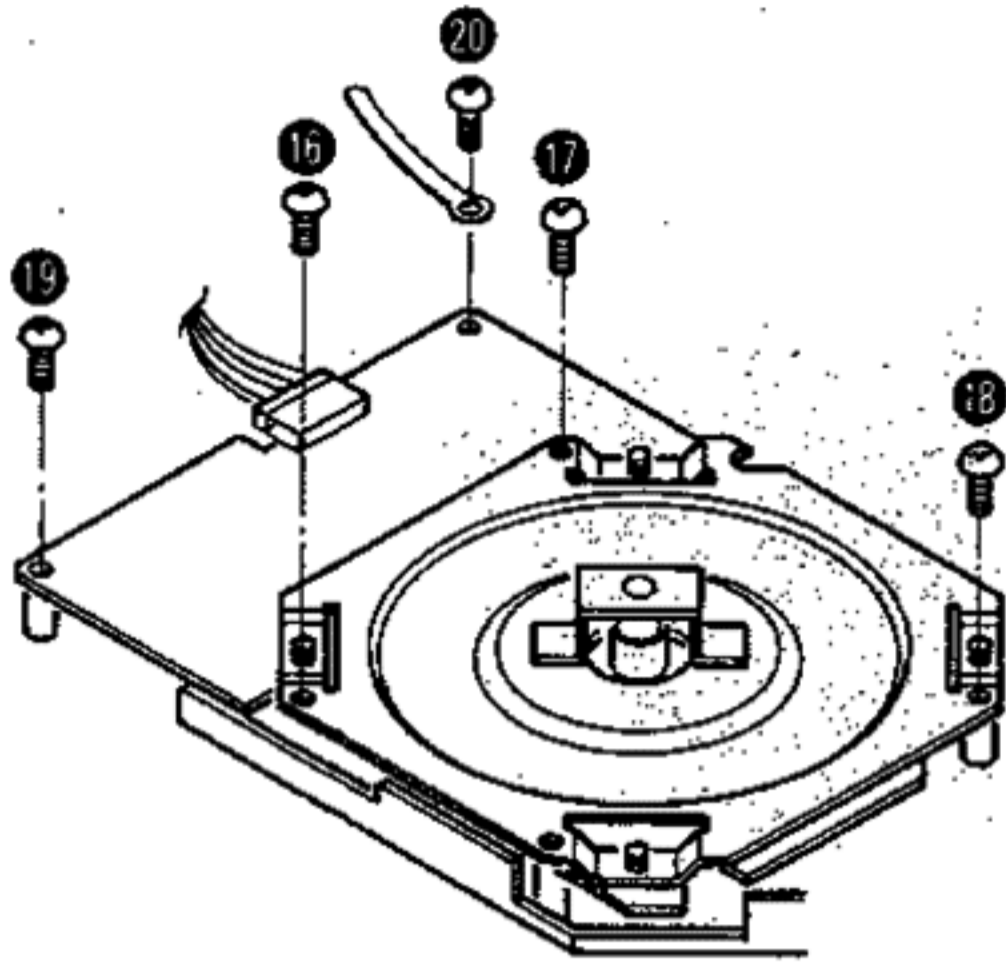

Fig. 9
2. Remove the 3 stator frame setscrews (Fig. 9: ①⑥ ~ ①⑧) and the 2 drive circuit board setscrews (Fig. 9: ①⑨, ①⑩).